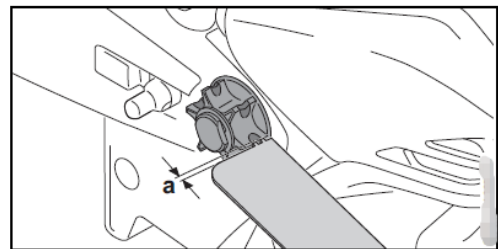

Fig. 10
- If wear marks are deeper than $a = 0,5 \text{ mm}$, do not use the tool and contact your dealer for maintenance. See Fig. 10.